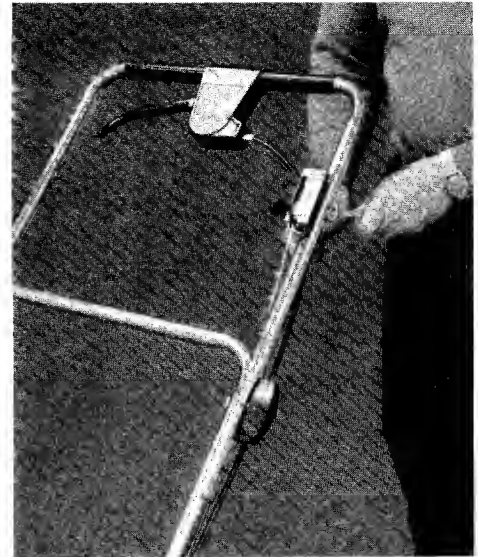

Figure 3
- 5 Assemble the throttle control to the upper handle with the nut and bolt. (See figure 3.)